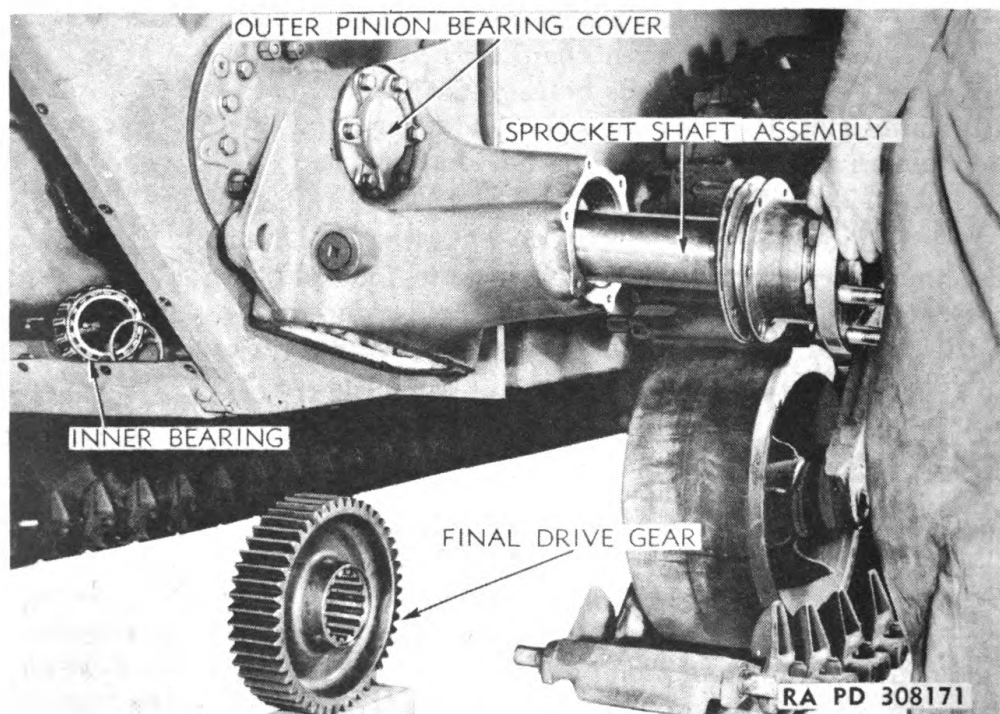

Figure 69 — Removing Sprocket Shaft
(2) **REMOVE PINION SHAFT ASSEMBLY.** Remove outer pinion bearing cover and shims by removing six cap screws (fig. 69). Install shaft puller assembly in tapped hole in end of pinion shaft in the same way as when pulling sprocket shaft, and pull outer pinion bearing, pinion, and shaft from case. Operate sliding ram with light strokes to prevent breaking snap ring in inner splines of pinion at end of pinion shaft. Remove inner bearing cup in same manner as inner sprocket shaft bearing cup with push-puller and bearing cup puller (fig. 41). Press or pull bearings from pinion.